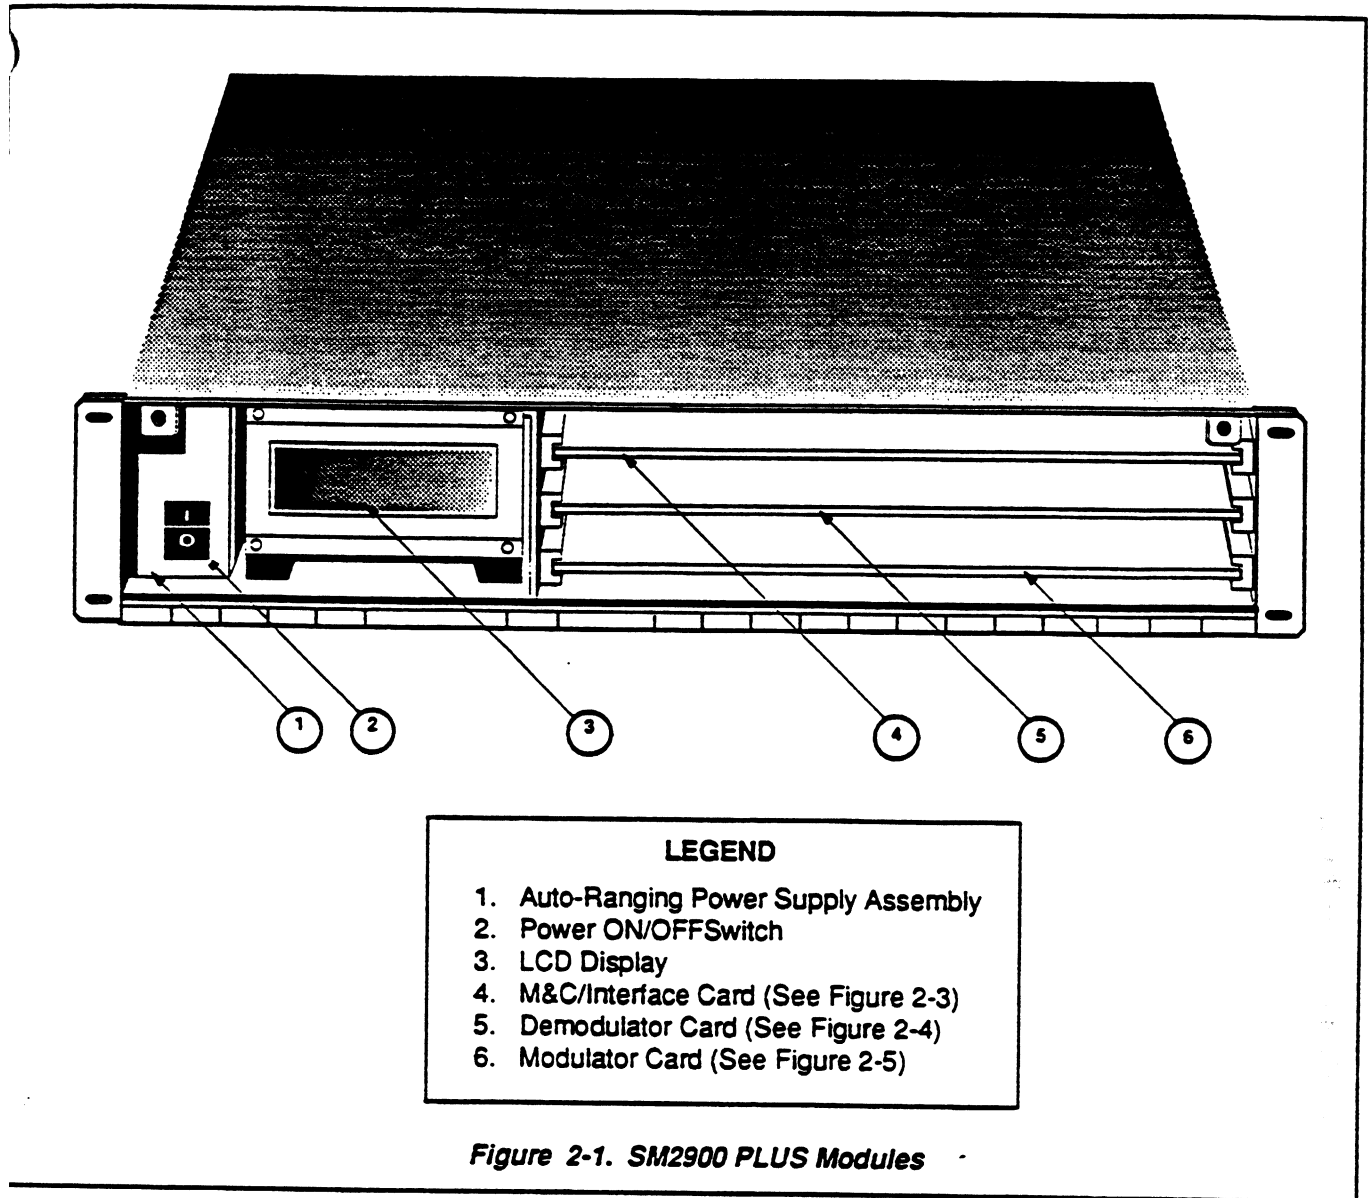

Figure 2-1. SM2900 PLUS Modules
Figure 2-1 shows the locations of modules in the chassis. All modules must be installed with component side of the board up and in the designated location.
1. Unpack each additional module and insert into correct slot as shown in Figure 2-1.